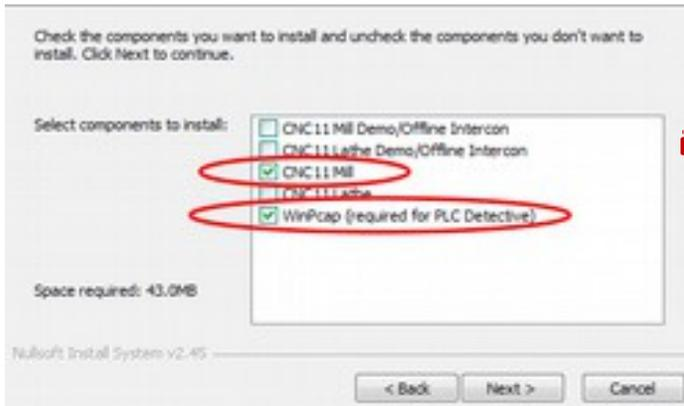
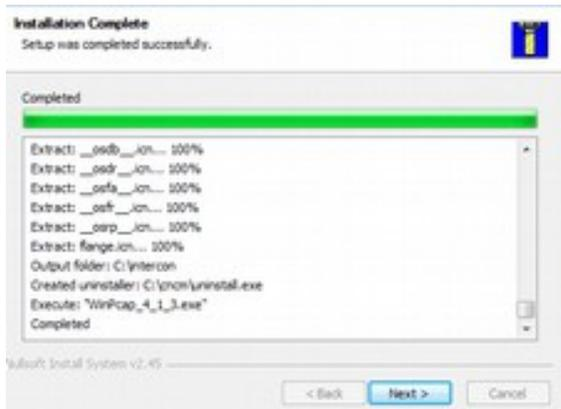

Figure 3.2.3
Figure 3.2.5
6. Select CNC11 Mill and WinPcap for a Mill installation as shown in Figure 3.2.3. Select CNC11 Lathe and WinPcap for a Lathe installation. For the remainder of this document we will assume the system is being installed on a mill. Click **Next**, accept default installation drive and directory (C:\) and click **Install** as seen in Figure 3.2.4. The software will extract as shown in Figure 3.2.5.